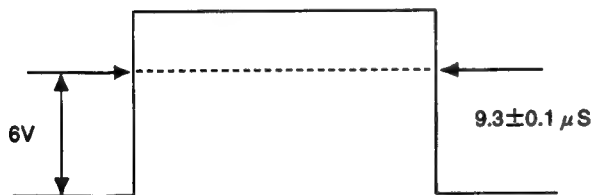

Fig.5-3
4. Observe the anode of TP300 or D516 with an oscilloscope, and adjust **[H-BLANKING]** so that the waveform will be as shown in Fig.5-3.